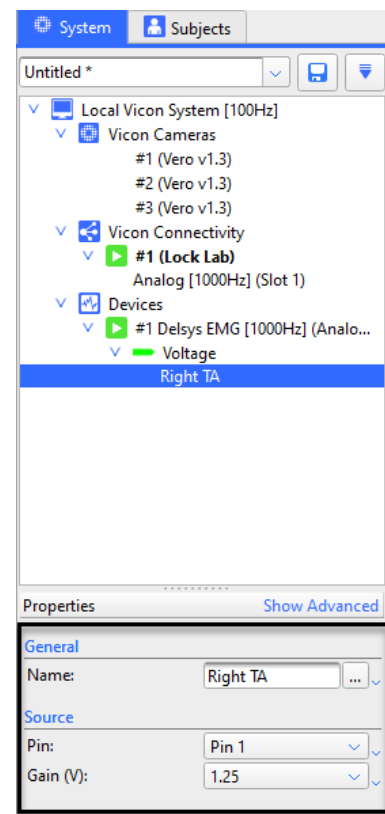

Figure 21: Configuring Delsys EMG channel settings in Vicon Nexus.
9. Within the properties window, determine a name for each channel, select the appropriate pin number (the pin number is the input signal to the Lock+/Lab), and set the gain (this information will be exported within the ASCII data). Repeat for all the remaining components (Figure 21).